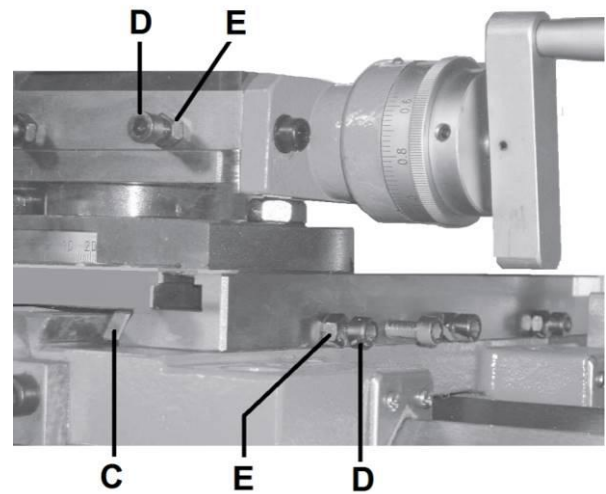

Figure 11-3: Slide adjustment
Each slide is fitted with a gib (C, Fig 11-3) and can be adjusted with screws (E) fitted with lock nuts (D).